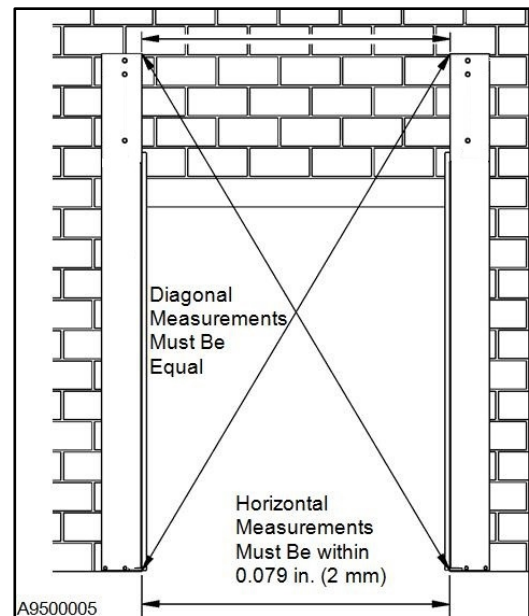

Figure 29
17. With both columns and lower track assemblies set and snugly bolted in place, check the overall plumb and square of the mounted columns and most importantly, the lower track assemblies. (See Figure 29)
Compare the diagonal measurements and the upper and lower horizontal measurements across the columns. The columns are square and parallel when the diagonal measurements are equal and the horizontal measurements are equal. (See Figure 29)